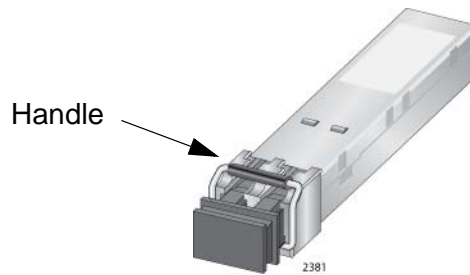

Figure 87. Handle on SFP+ Transceiver
2. Orient the SFP+ transceiver with the handle on top, as shown in Figure 87 on page 151.